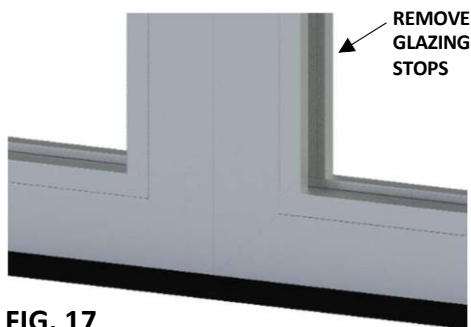

FIG. 17
- Remove vertical glazing stops and locate installation screw holes. **(Fig.17 & 18)**